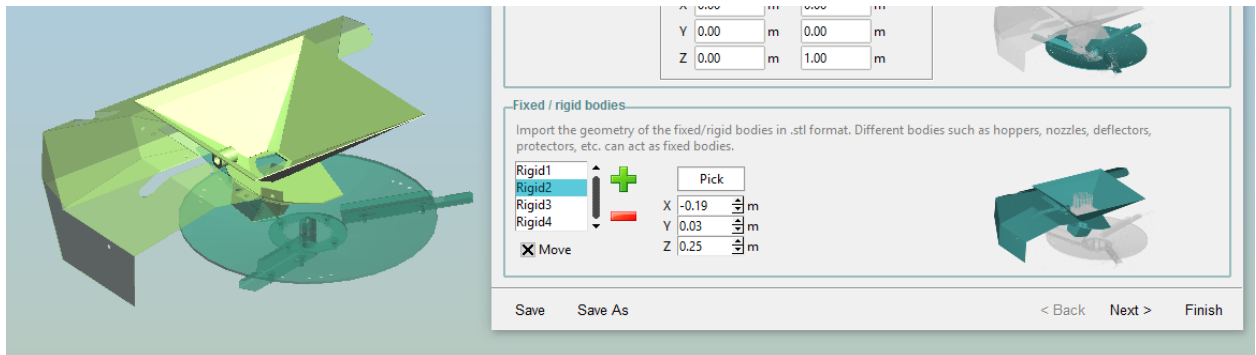

Figure 13. Rigid parts imported.
- Fixed / rigid bodies:** as well as rotating parts, you can import fixed parts such as hoppers, deflectors, protectors and opening levers, to correctly reproduce the experiment conditions (Figure 13). There is no limit in the number of fixed parts imported. The steps to import, delete and move rigid parts are the same as for rotating parts.